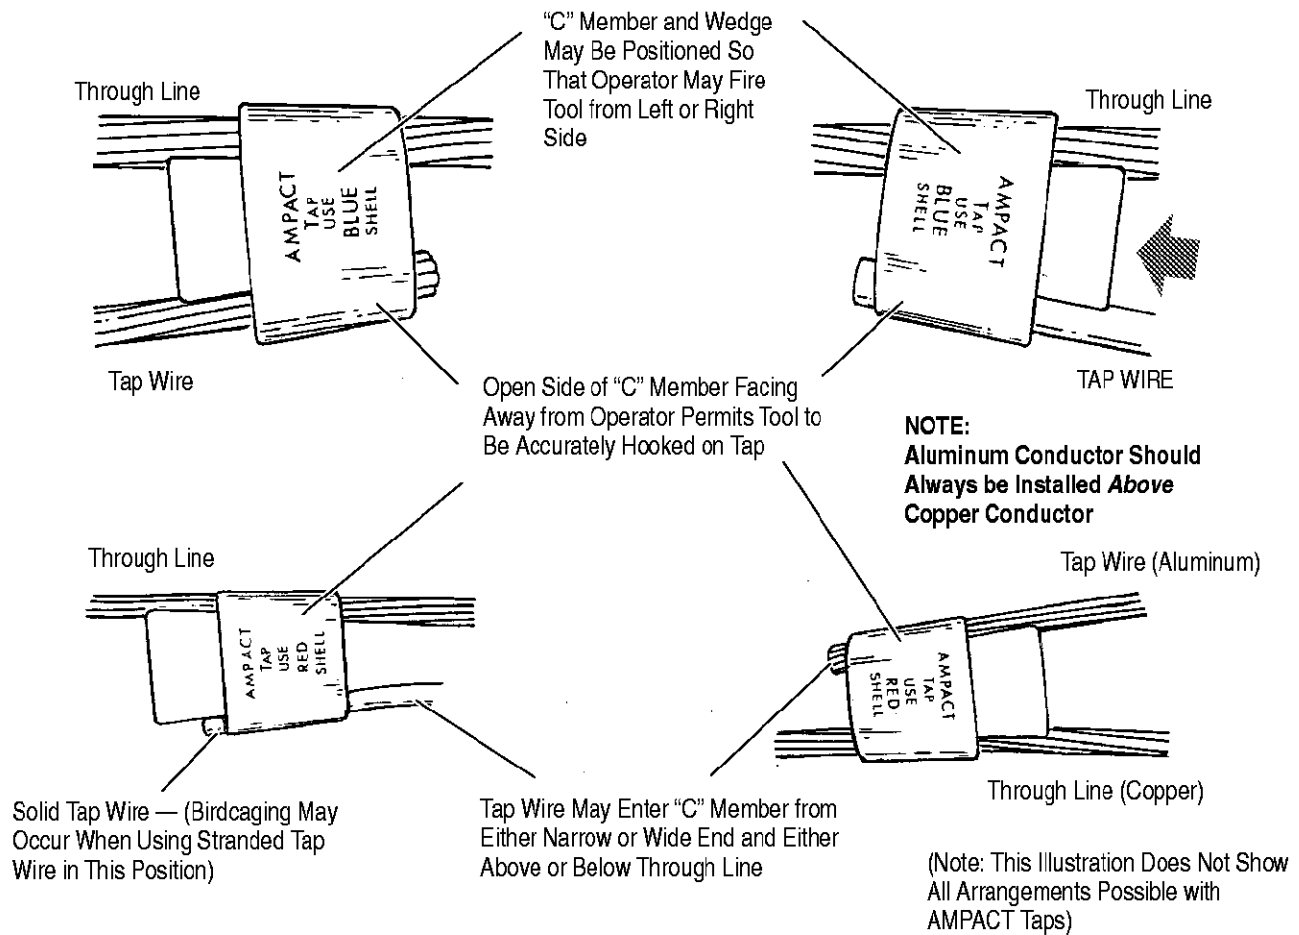

Figure 11
2. Hook "C" member on thru wire with open side of "C" facing away from operator. Typical arrangements of AMPACT taps are shown in Figure 11. The arrangement used depends on the working space, direction of tap wire, and type of wire being used.